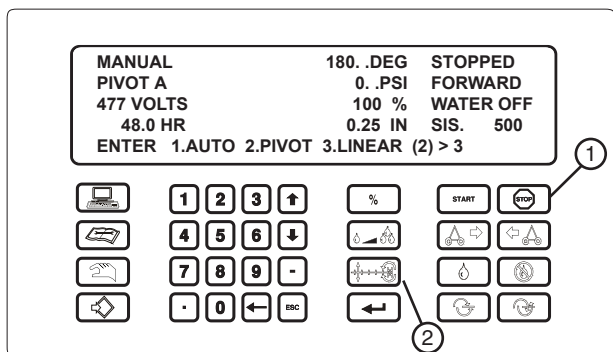

Figure 80-4 1. Stop Key 2. Pivot/Linear Key
8. Press  to stop the machine at the end of the pivot zone. See figure 80-4.
9. Press  and **3** to return the machine to the linear mode. See figure 80-4.